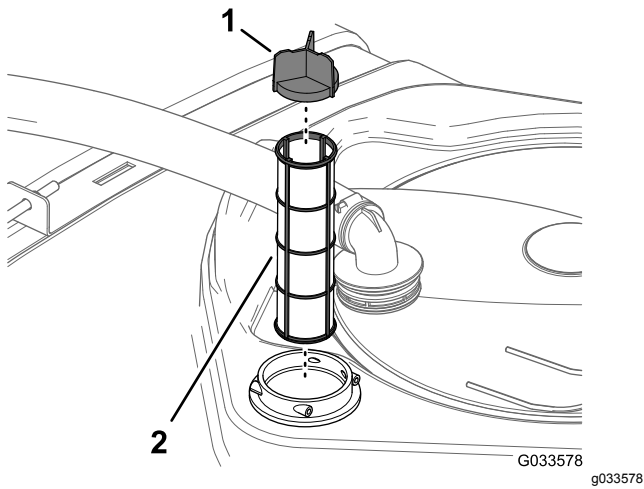

Figure 47
4. Pull the suction strainer out of the filter housing in the tank (Figure 47).